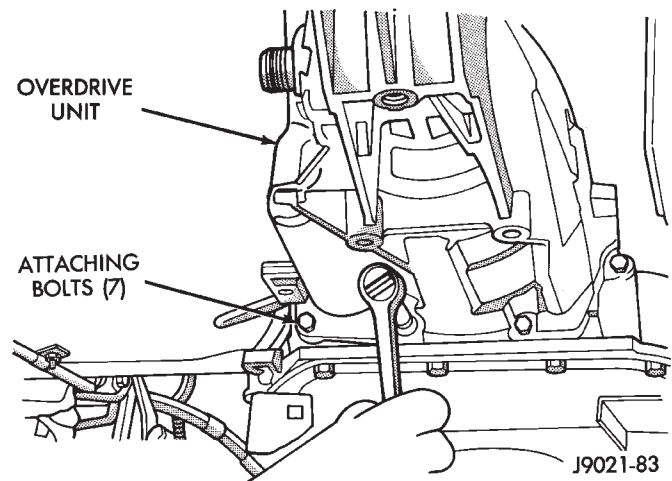

Fig. 8 Removing/Installing Overdrive Unit Attaching Bolts
- (7) Disconnect vacuum switch hoses at transfer case, if equipped.
- (8) Disconnect transfer case shift linkage at transfer case range lever. Then remove linkage bracket bolts and remove linkage and bracket from transfer case. Move linkage aside for clearance.
- (9) Remove nuts attaching transfer case to overdrive unit.
- (10) Remove transfer case. Support transfer case with transmission jack (secure transfer case to jack with safety chains). Then move transfer case rearward and off overdrive case.
- (11) Remove transfer case from jack and position it on bench.
- (12) Support transmission with adjustable jack stand. Position wood block between jack and transmission case.
- (13) Remove nuts and bolts attaching transmission mount to center crossmember.
- (14) Remove nuts and bolts attaching crossmember to frame rails.
- (15) Rotate crossmember diagonally to clear frame rails and remove crossmember.
- (16) Support overdrive unit with transmission jack.
- (17) Remove bolts attaching overdrive unit to transmission (Fig. 8).
(10) Verify that splines in overdrive planetary gear and overrunning clutch hub are aligned with Tool 6227-2 (Fig. 8). **Overdrive unit cannot be fully installed if splines have rotated out of alignment. If misaligned has occurred, overdrive will have to be disassembled in order to realign splines.**
(11) Install overdrive unit as follows: